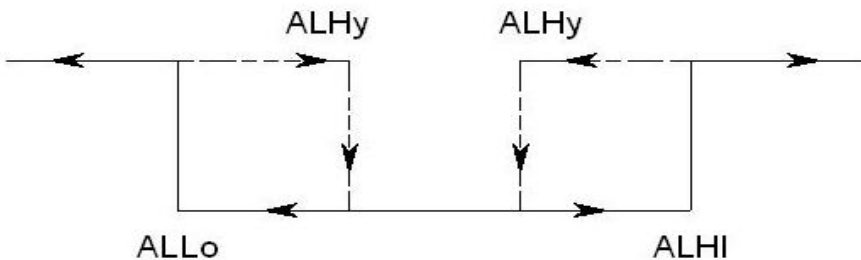

Fig. 4
- * The function of " Alarm Low limit value " setting, refer to page 12, Fig. 4.*
following Fig. 4.